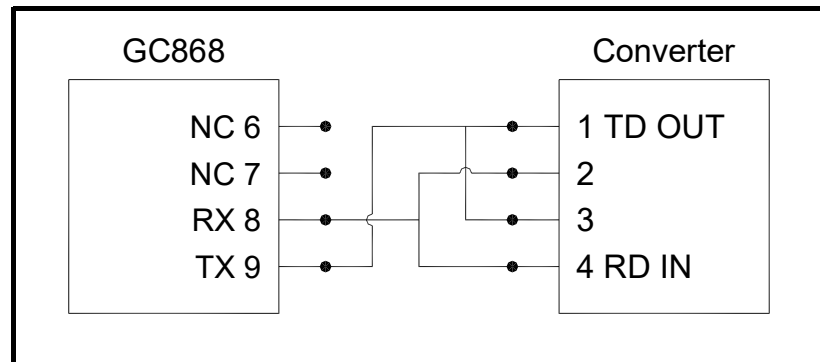

Figure 1-36: Typical RS485 Connections
3. Feed one end of the cable through the conduit hole, wire it to terminal block J1 and secure the cable clamp. Connect the other end of the cable to the converter, as shown in Figure 1-36 below.